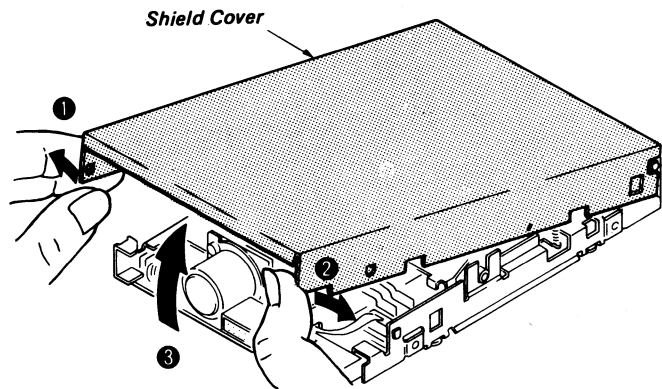

Fig. 4-2 Shield Cover Replacement
- Insert your finger into the rear right side portion of the Shield Cover as shown in Fig. 4-2, and dislocate the cover from the hook while applying some force to the direction marked with arrow. Dislocate the rear left side portion of the cover from the hook and the whole Shield Cover can be taken out.
- Match the cutting edge with the emboss located in the front side of the drive and then put the rear of the Shield Cover into the proper position. (Refer to Fig. 4-2)